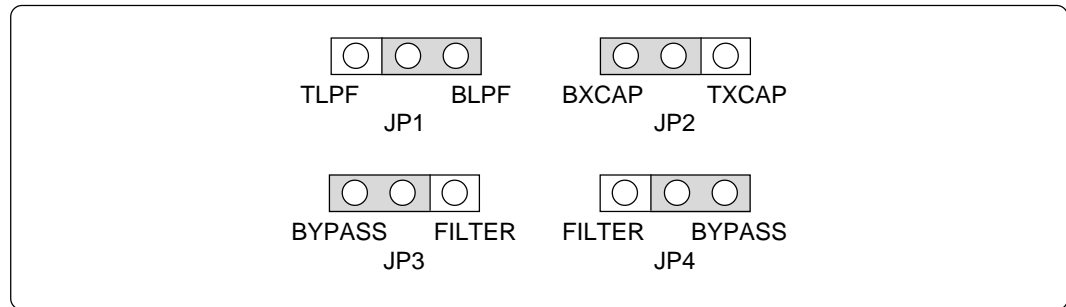

Figure 4.3 Switch settings when running self-checks
- (1) Set the switches in the emulation pod same as the factory setting (see Figure 4.3).
- (2) If the target system is connected, disconnect the target system.
- (3) Within 2 seconds of activating power to the emulator, press the RESET switch on the emulator front panel to switch the emulator to the maintenance mode.
- (4) Check the "SAFE" LED starts blinking and then press the RESET switch again.
- (5) The self-checks will start. If the normal result is displayed in about 2 minutes, self-checks terminated normally.
- Check if the switches in this product are set same as the factory-settings (Figure 4.3).